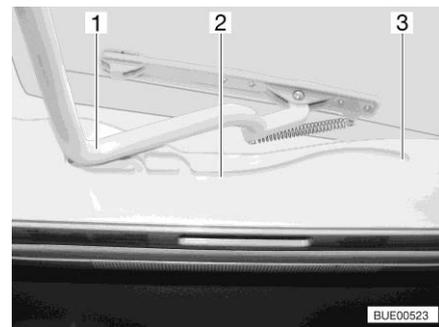

Fig. 120 Guide (Heki skylight)
- Pull the bar (Fig. 120,1) in the guides (Fig. 120,2) to the rearmost position (Fig. 120,3).
- Use both hands to push the bar (Fig. 120,1) slightly upwards.
- Pull the bar in the guides (Fig. 120,2) to the desired position.